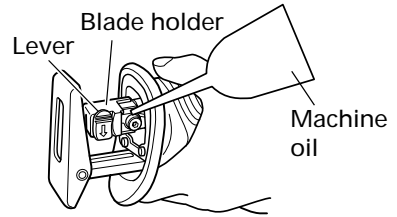

Fig. 12
- (1) After use, blow away sawdust, earth, sand, moisture, etc., with air or brush them away with a brush, etc., to ensure that the blade mount can function smoothly.
- (2) As shown in Fig. 12, carry out lubrication around the blade holder on a periodic basis by use of cutting fluid, etc.